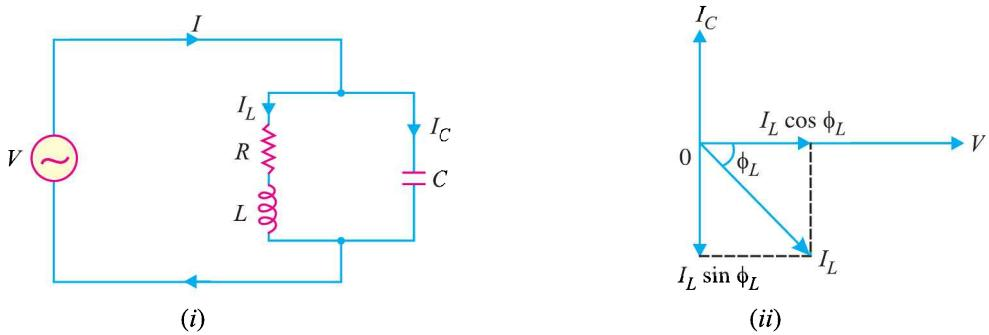

Fig. 15.4
A parallel tuned circuit consists of a capacitor  $C$  and inductor  $L$  in parallel as shown in Fig. 15.4 (i). In practice, some resistance  $R$  is always present with the coil. If an alternating voltage is applied across this parallel circuit, the frequency of oscillations will be that of the applied voltage. However, if the frequency of applied voltage is equal to the natural or resonant frequency of  $LC$  circuit, then *electrical resonance* will occur. Under such conditions, the impedance of the tuned circuit becomes maximum and the line current is minimum. The circuit then draws just enough energy from a.c. supply necessary to overcome the losses in the resistance  $R$ .
**Parallel resonance.** A parallel circuit containing reactive elements ( $L$  and  $C$ ) is \*resonant when the circuit power factor is unity *i.e.* applied voltage and the supply current are in phase. The phasor diagram of the parallel circuit is shown in Fig. 15.4 (ii). The coil current  $I_L$  has two rectangular components *viz* active component  $I_L \cos \phi_L$  and reactive component  $I_L \sin \phi_L$ . This parallel circuit will resonate when the circuit power factor is unity. This is possible only when the net reactive component of the circuit current is zero *i.e.*